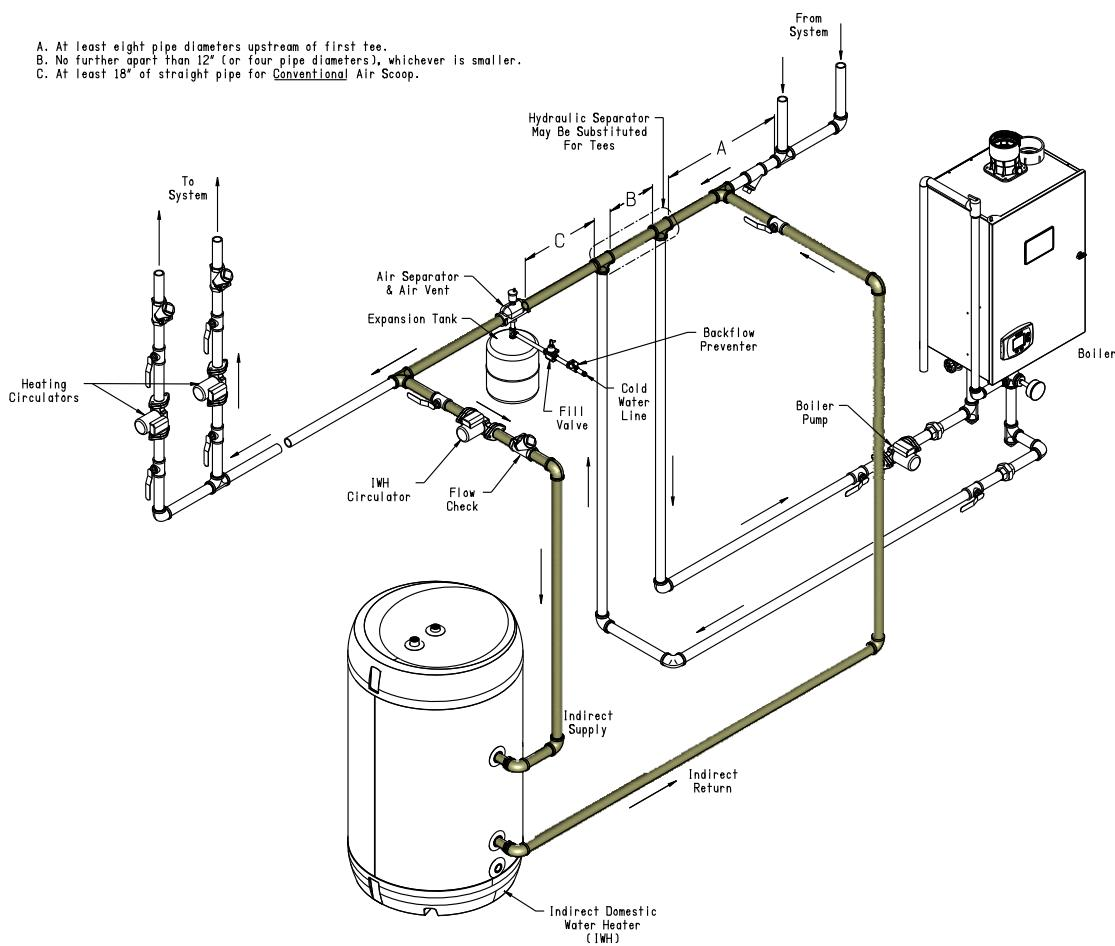

Figure 5.4 Primary-Secondary Piping of Indirect Water Heater
- b. The equivalent length of most cast iron boilers can be safely treated as zero. This is often not the case, however, with condensing and water tube boilers. In such cases either use primary- secondary piping (Figure 5.4) or use an alternate method to size the pump and piping.
- 4. If primary-secondary piping is used as shown in Figure 5.4, calculation of equivalent length is exactly the same as shown above, except that IWH loop is the shaded piping in Figure 5.4 (i.e. the IWH loop does not pass through the boiler).